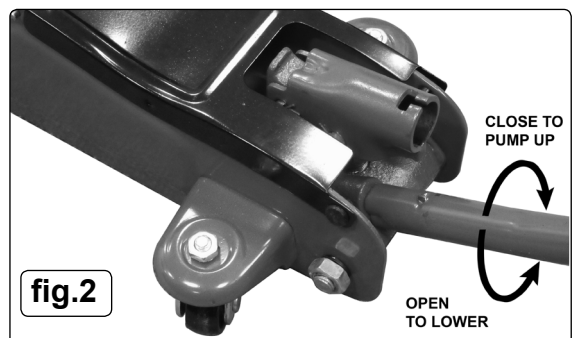

fig.2
- 2.2. To operate the release valve engage the cross pin in the open end of the handle with the slot in the end of the release valve as shown in fig.2.
as shown in fig.2 and open the valve by turning the handle anti-clockwise, place the handle back into the jacking socket and pump for 30 to 40 seconds. When complete, close the release valve by turning the valve nut clockwise.
- 3.3.1. Close the release valve using the handle as shown in fig.2. Place the handle into the handle socket and commence pumping handle up and down using maximum strokes until the jack saddle reaches the vehicle jacking point. Check the jacking point is centrally located on the saddle and raise the vehicle.